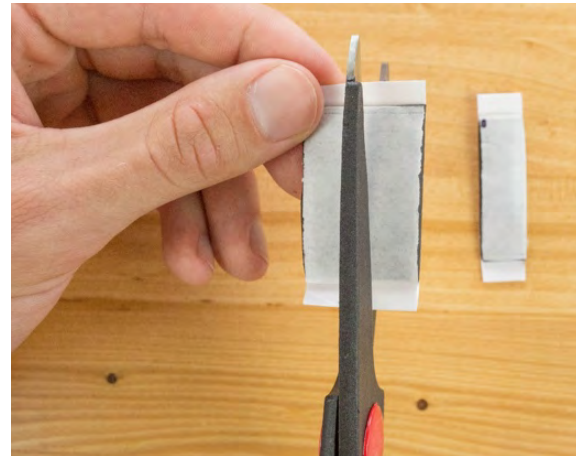

Figure 40
- ❑ Cut the poly butyl rubber tape into three equally sized strips and peel off the backing. (Figure 40)